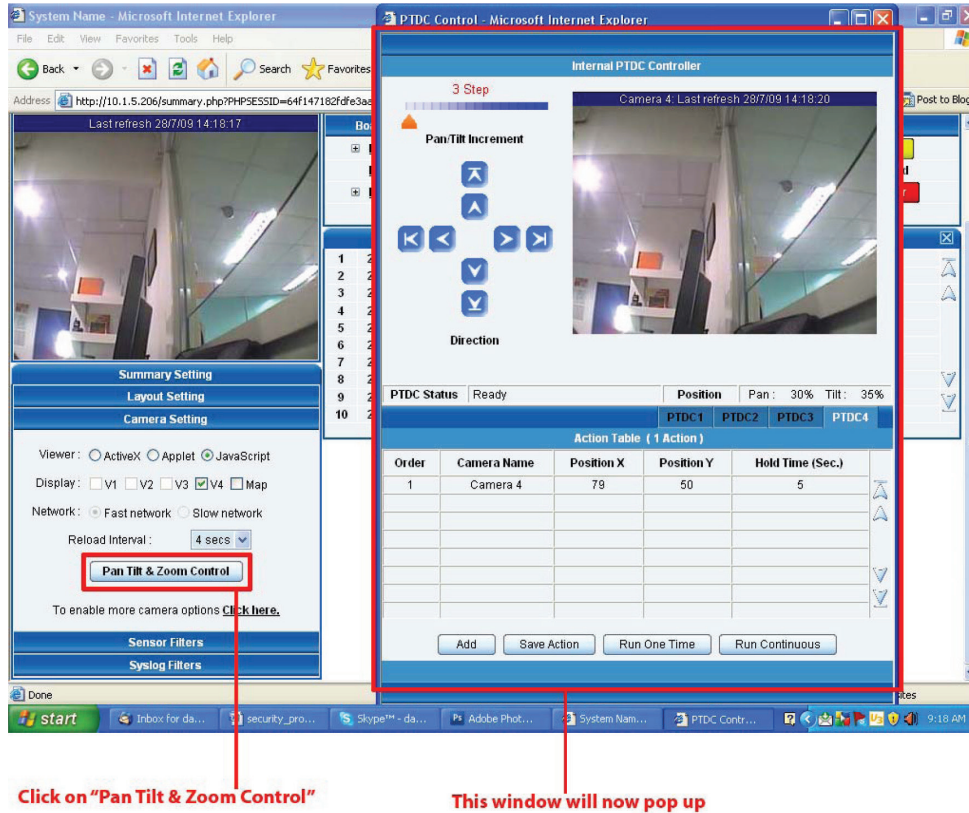

Figure 5-12. PTZ control screen.
- Click “Pan Tilt & Zoom Control.” (See Figure 5-12.)